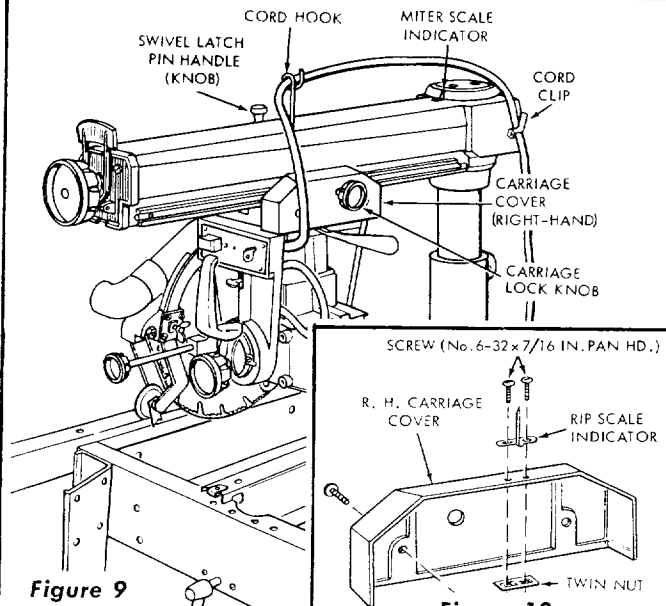

Figure 9
6. Installing Remaining "Loose Parts": (See figure 9)